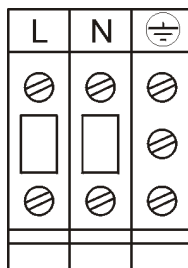

Figure 9. LP11 924 6&10 kVA:
3. Connect the utility supply wires to terminals L, N and GND (equipment grounding conductor). See figure 9. Ground connection is essential!